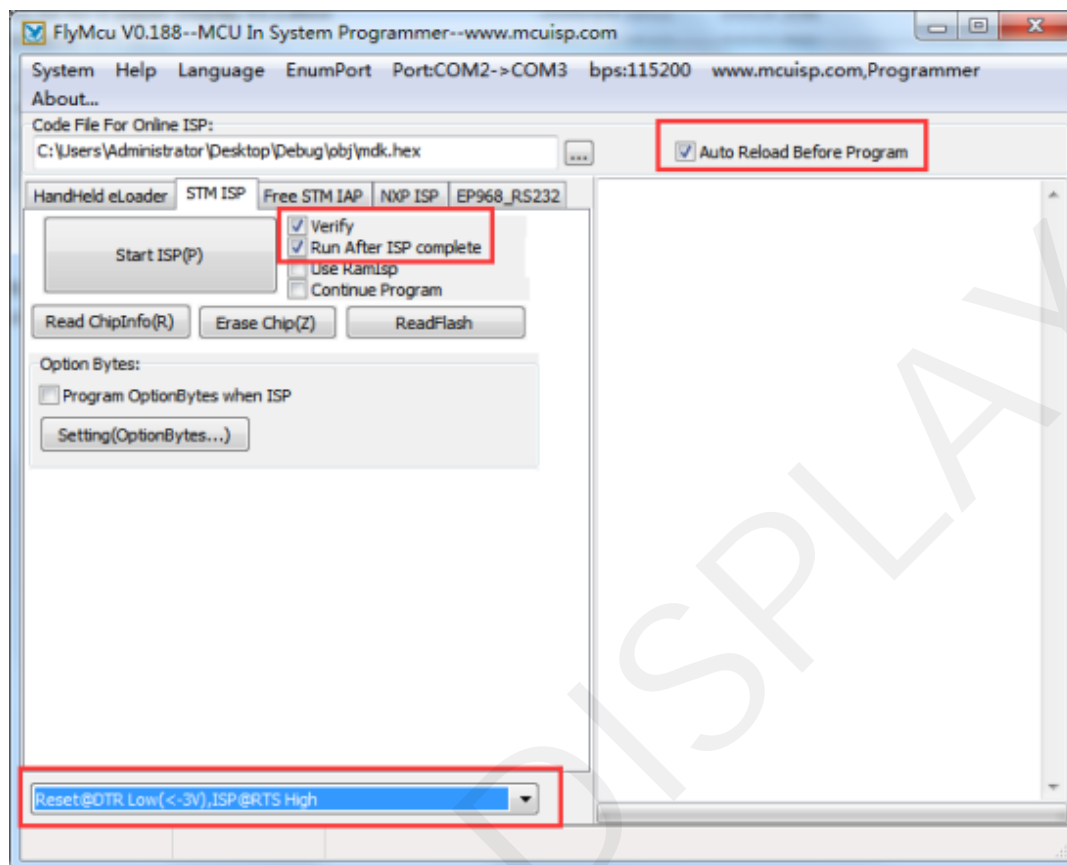

Figure 18: Configuration of Fly Mcu
4) Open the FlyMcu downloading tool and configure it as shown in Figure 18.